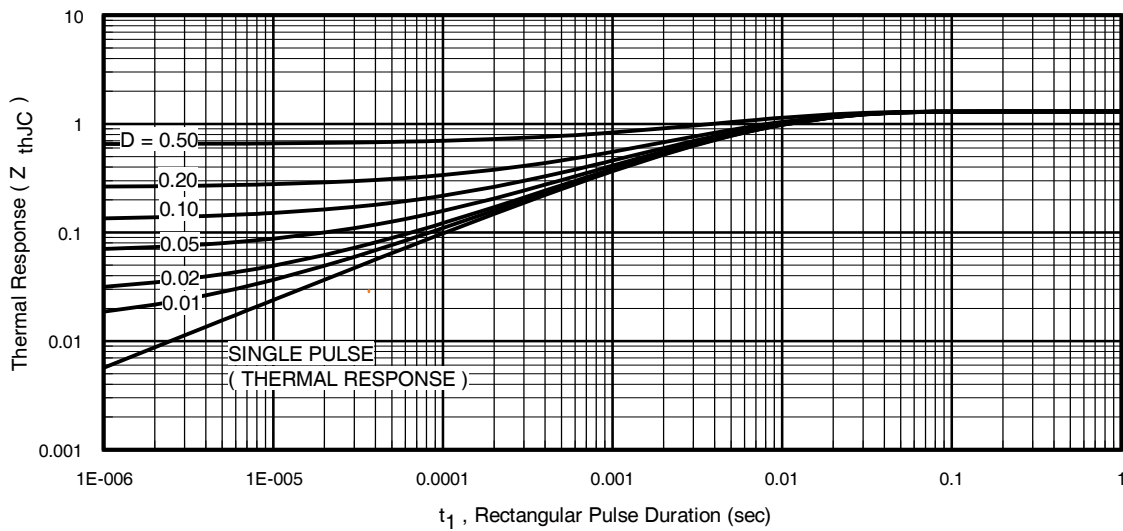

Fig 11. Maximum Effective Transient Thermal Impedance, Junction-to-Case
- ① Repetitive rating; pulse width limited by max. junction temperature. (See fig. 11)
- ② Limited by T_{Jmax} , starting $T_J = 25^\circ\text{C}$, $L = 0.71\text{mH}$, $R_G = 25\Omega$, $I_{AS} = 23A$, $V_{GS} = 10V$. Part not recommended for use above this value.
- ③ $I_{SD} \leq 23A$, $di/dt \leq 400A/\mu s$, $V_{DD} \leq V_{(BR)DSS}$, $T_J \leq 175^\circ\text{C}$.
- ④ Pulse width $\leq 1.0\text{ms}$; duty cycle $\leq 2\%$.
- ⑤ $C_{oss\text{ eff.}}$ is a fixed capacitance that gives the same charging time as C_{oss} while V_{DS} is rising from 0 to 80% V_{DSS}